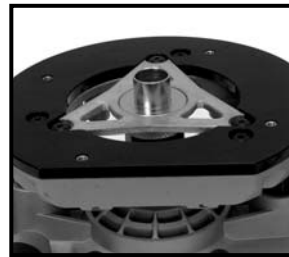
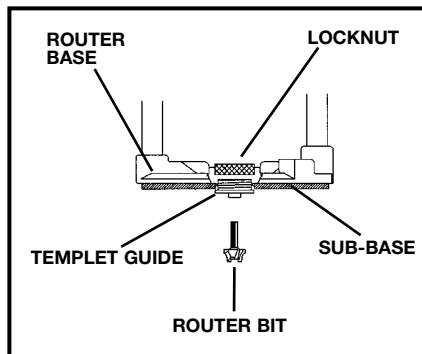
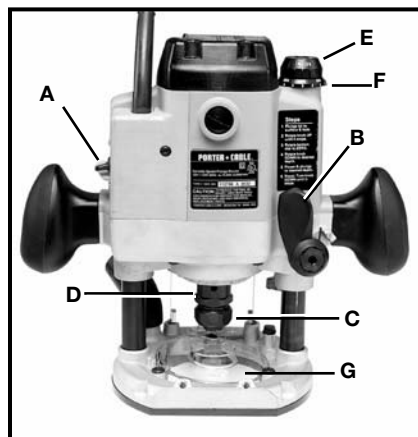
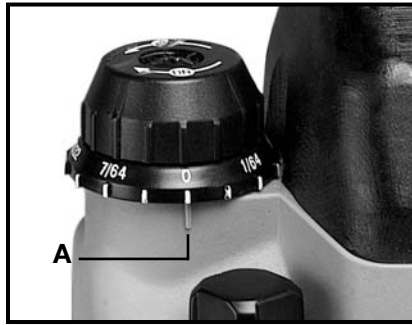

Fig. 4A
Fig. 5
Fig. 8
Fig. 15
2. With the motor at its highest position, move the plunge locking lever (C) Fig. 8 to the free motion position by rotating it to the left (in the operating position) as far as it will go. The lever will lock into position.
7. Push the base down until the templet guide centers itself on the collet nut (D) Fig. 8, and hold in this position (Fig. 4A).
8. Move the plunge locking lever (C) Fig. 8 to the lock position.
10. Push down on the base and move the plunge locking lever (C) Fig. 8 back to the free motion position.
NOTE: See Fig. 5 for proper orientation of templet guides.
2. If bit is too large to fit through the center hole of the dust cover (G) Fig. 8, remove the dust cover.
2. Release the plunge mechanism by pulling the locking lever (B) Fig. 8 to the left and lower the plunge mechanism until the router bit just touches the work surface. Release the lever and push to the right to lock the mechanism in this position.
1. Moving the plunge locking lever (B) Fig. 8 to the free motion position by rotating it to the operator's left as far as it will go (the lever will lock into this position), and ensuring that a bit is not in the tool.
- A. If the motor will not go all the way down to allow the collet to touch the work surface, the tool is in the micro-plunge adjusting mode. To return to the neutral position, push the motor down, and while maintaining pressure on the motor, turn the micro-plunge adjusting knob (E) Fig. 8 clockwise until the collet nut (D) Fig. 8 touches the surface of the work.
- B. If the motor does not rise to the full height, the tool is in the shaper table adjusting mode. To return to the neutral position, turn the micro-plunge adjusting knob (E) Fig. 8 counterclockwise until the motor reaches its maximum height.
2. Move the plunge locking lever (B) Fig. 8 to the free motion position by rotating it to the operator's left until it locks.
8. Hold the micro-plunge adjusting knob (E) Fig. 8 while turning the micro-plunge adjusting ring (F) Fig. 8 until the "0" lines up with reference mark (A) Fig. 15 on the motor housing.
10. Set the plunge locking lever (C) Fig. 8 to the locked position after the plunge is adjusted and before the unit is turned "ON". Move the lever to the right as far as it will go.
2. Move the plunge locking lever (B) Fig. 8 to the free motion position by rotating it to the left until it locks into position.
3. Remove the sub-base (Fig. 5) and clear dust cover (G) Fig. 8.
7. The bit height can be adjusted using the micro plunge adjusting knob. To raise the bit, turn the micro-plunge adjusting knob (F) Fig. 8 clockwise. To lower the bit, turn the knob counterclockwise.
8. The plunge locking lever (C) Fig. 8 should be set to the locked position after the bit height is adjusted and before the unit is turned on. Move the lever to the right as far as it will go.
1. Lock the plunge locking lever, (B) Fig. 8 by moving it to the operator's right as far as it will go.
2. Push in on the plunge locking lever (B) Fig. 8.
3. Move the plunge locking lever (B) Fig. 8 to the desired location and allow it to spring back into position.